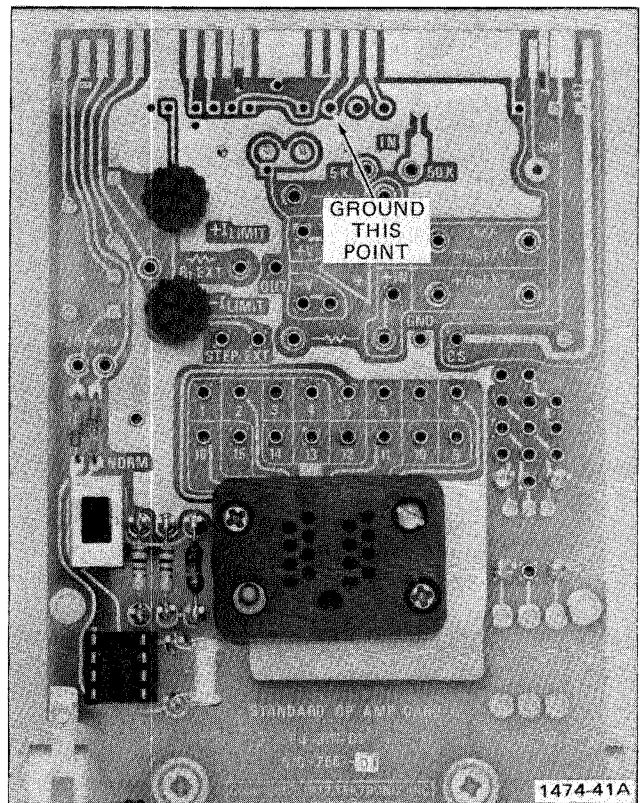

Fig. 5-2. Location of the point to be grounded in Step 2, part b.
b. Connect a lead from GND to the sixth hole to the left from the upper-right corner of the Standard Op Amp card. See Fig. 5-2.